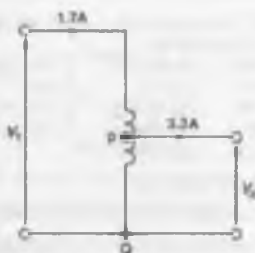

Figure 21.22
- 2 In the auto-transformer shown in Fig. 21.22, the current in section PQ is: